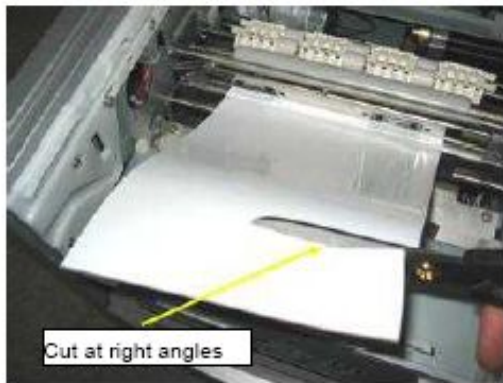

Fig.44
2. If there is a jam, use scissors, etc. to remove it. Fig.44